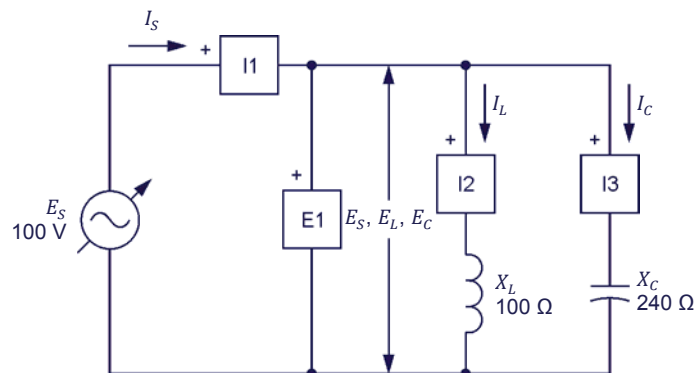

Figure 3-14. Parallel ac circuit containing an inductor and a capacitor, and set up for measuring the reactive power in each component.
6. Set up the circuit shown in Figure 3-14.